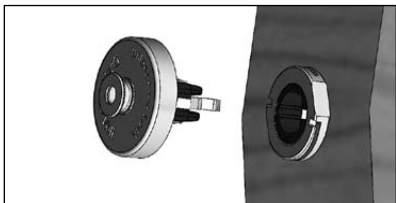
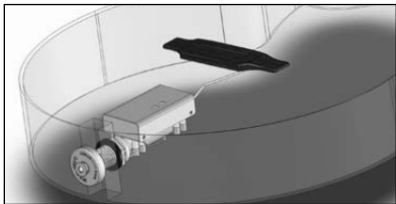

FIGURE 5
FIGURE 6
6. Slide two AA batteries, positive terminal first, into the battery tube. Install the jack into the battery tube by first aligning the two white marks (refer to fig. 5). The jack should then slide smoothly into the tube until a slight resistance is felt near the end as the electrical contacts click into place. Finish by rotating the knurled end cap until the pins drop into the slot on the outer nut. A 1/4 turn clockwise of the end cap will lock it in place. The end cap should have a slight click at the end of the 1/4 turn ensuring that the jack is securely fastened (refer to fig. 6).